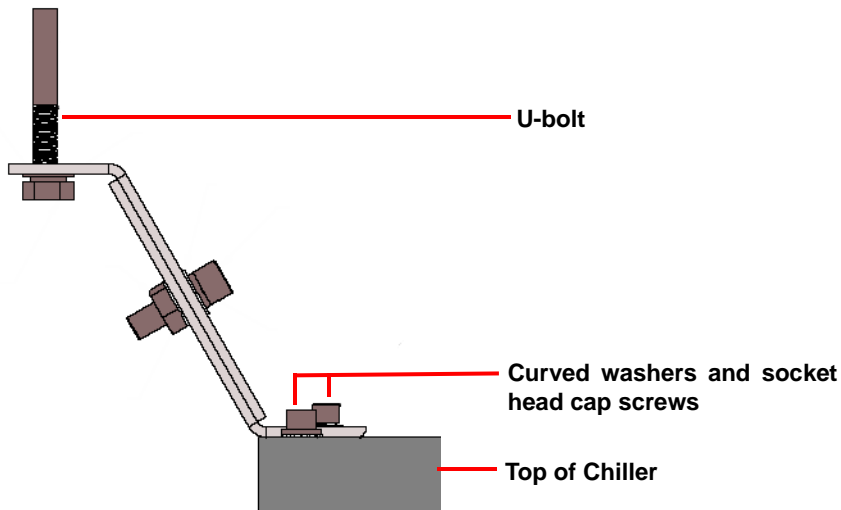

Figure 4 U-bolt bracket assembly.
- 5 Obtain the U-bolt (PN 603.03036) and bracket (PN 403163.001) from the kit. Attach the U-bolt bracket assembly to the top of the Chiller using the three curved washers (PN 603.03305) and three sockethead cap screws (PN 603.02924.182). See Figure 4.